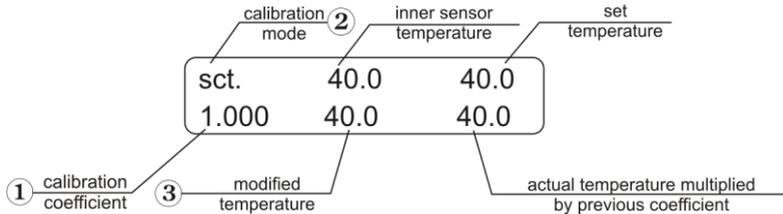

Fig. 4 Control panel in calibration mode
- 5.2. To enter the calibration coefficient, hold the **TIME-RUN/STOP** key (Fig. 2/5) pressed for more than 8 s to activate calibration mode. The calibration coefficient will be shown on the display (Fig. 4/1).
- 5.3. Set 1.000 value using the ▲ and ▼ **RPM** keys (Fig. 2/3) as shown on Fig. 4/1 to restore the factory settings.
- 5.9. Hold **TIME-RUN/STOP** key (Fig. 2/5) pressed for more than 8 s to activate calibration mode. The following parameters will be shown on the display (Fig.4):